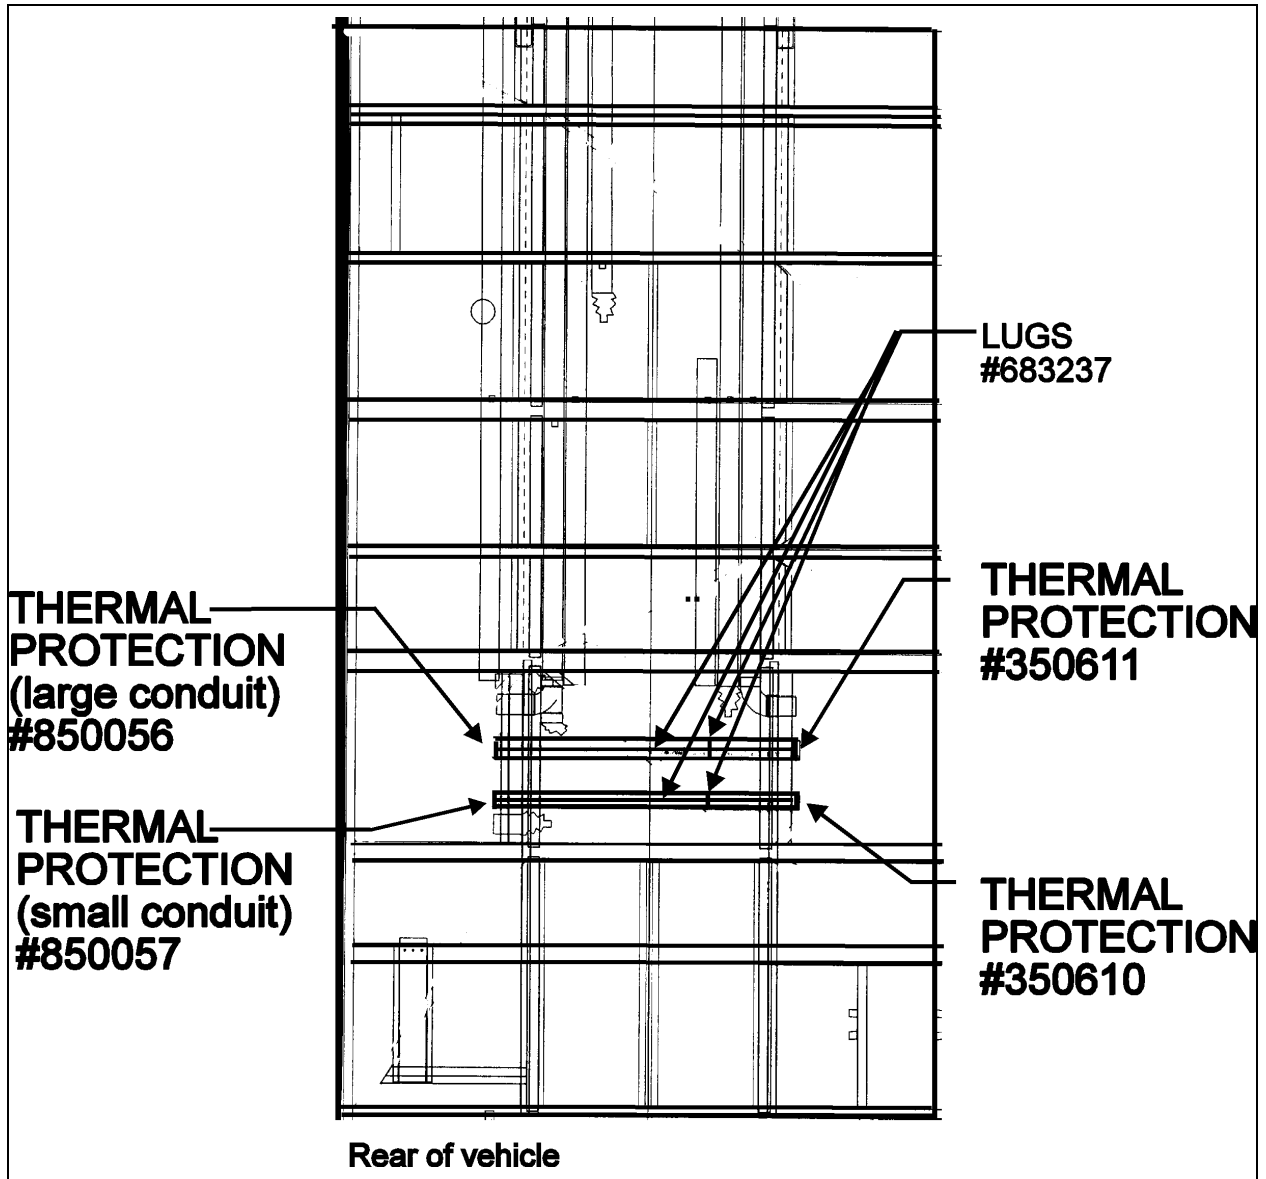

FIGURE 6: TOP VIEW OF ELECTRICAL CONDUITS
6. Cover large electrical conduit with thermal protection (Prévost # 850056) on the L.H. side and thermal protection (Prévost # 350611) on the R.H. side (Fig. 6).
7. Cover small electrical conduit with thermal protection (Prévost # 850057) on the L.H. side and thermal protection (Prévost # 350610) on R.H. side (Fig. 6).
8. Stick lugs (Prévost #683237) to close and join both thermal protections (Fig. 6).